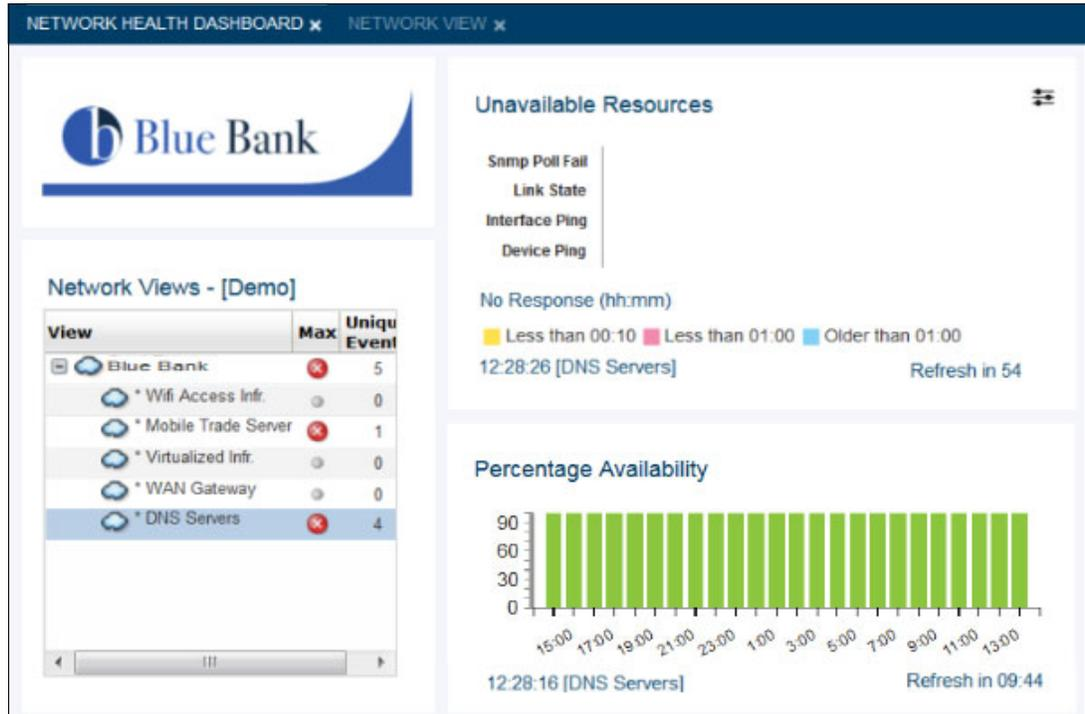

Figure 2-20 Verify network services that might be problematic
4. Annette checks Wifi Access Infrastructure, Virtualized Infrastructure Utilization, WAN Gateway, and Service availability. All appear to be OK, as shown in Figure 2-20.